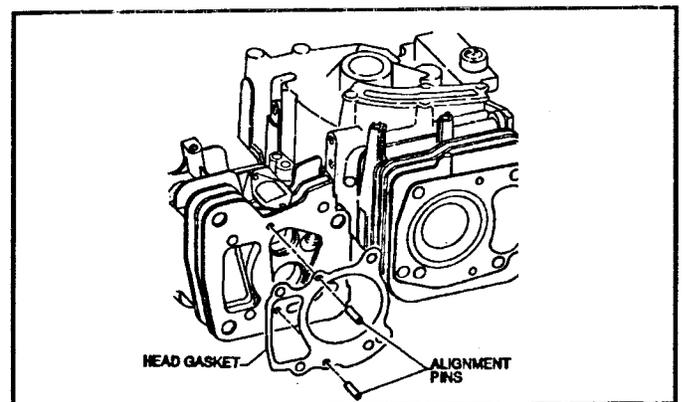

Figure 56
3. Remove the gasket from the head or block. Note the position of the alignment pins. See Figure 56.